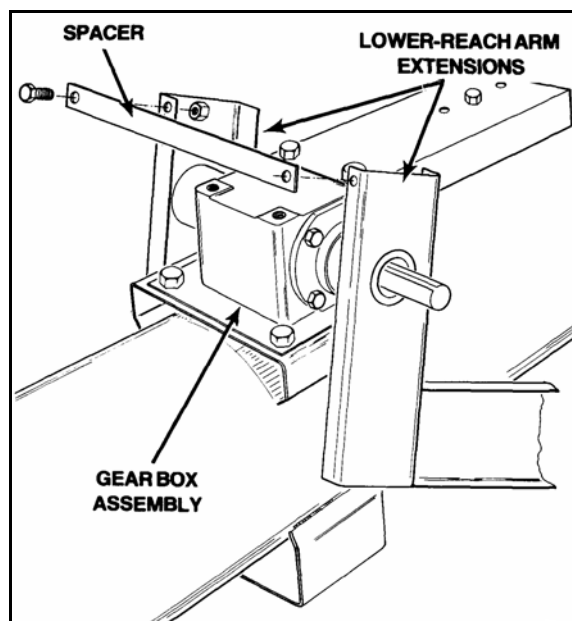

Figure 3.11
7. Slip lower reach arm extensions (left and right) onto gearbox hubs and attach spacer bracket with two 7/16" x 1" bolts and locknuts (Figure 3.11).